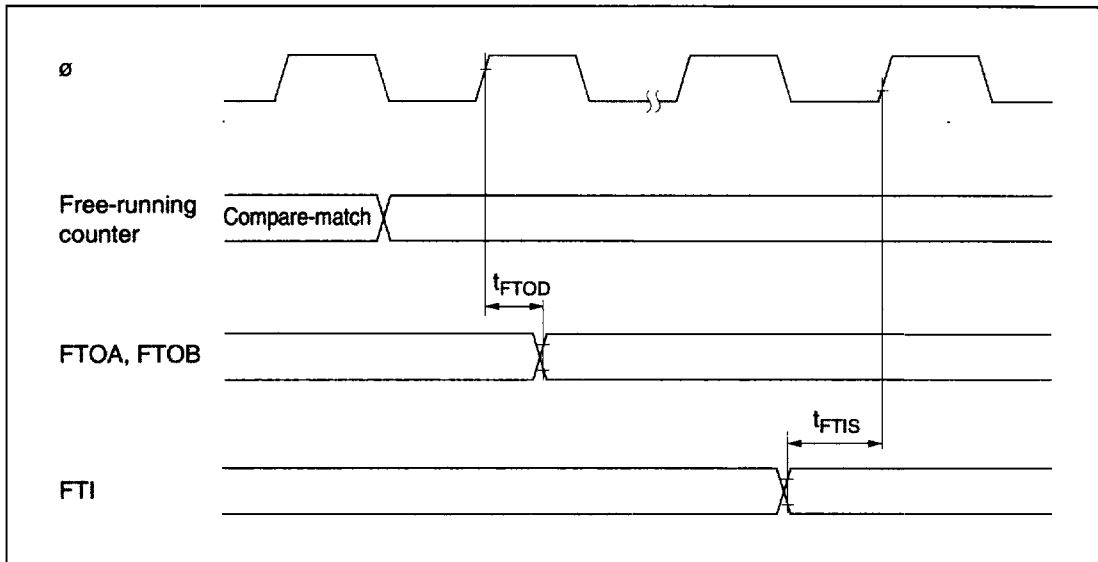

Figure 19-10 Free-Running Timer Input/Output Timing
19.3.3 16-Bit Free-Running Timer Timing	Figures 19-10 and 19-11